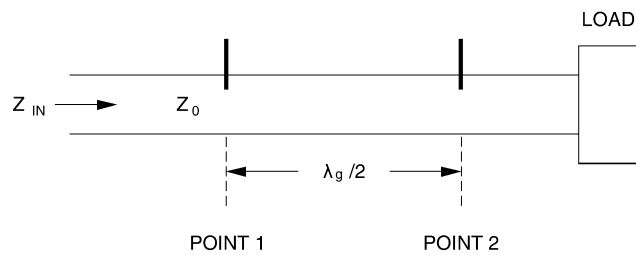

Figure 11-31. Line terminated by a load that has been matched with a slide-screw tuner.
5. Figure 11-31 shows a waveguide with a load that has been matched by using a slide-screw tuner located at point 1. What impedance will be presented by the waveguide to the generator if the screw is moved from point 1 to point 2? Explain.